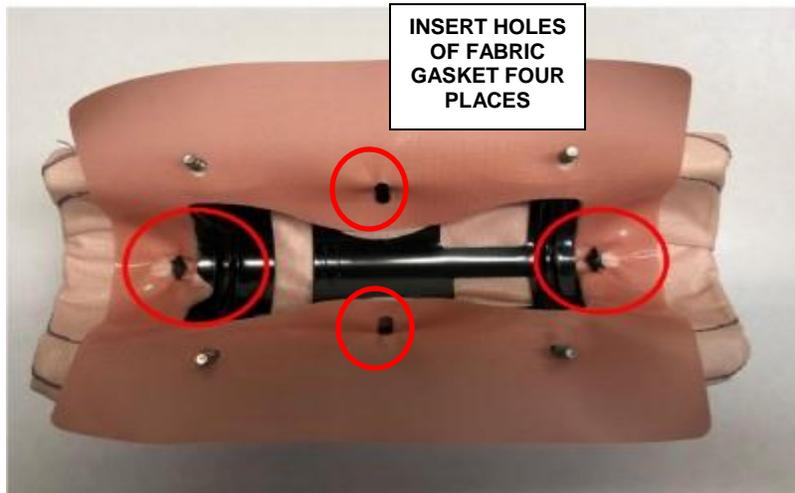

Figure 107 - Fabric Gasket
- h. With the help of a trim tool insert the holes of fabric gasket, four places (Figure 107).